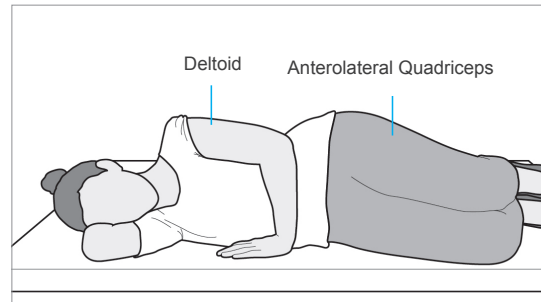

Figure 46 Patient Position
2. Select an injection site in the thickest part of the deltoid muscle in the upper arm (see Figure 46).
3. Position the patient so that they can be stabilized during treatment (Recommended position: on his/her side as shown) (see Figure 46).